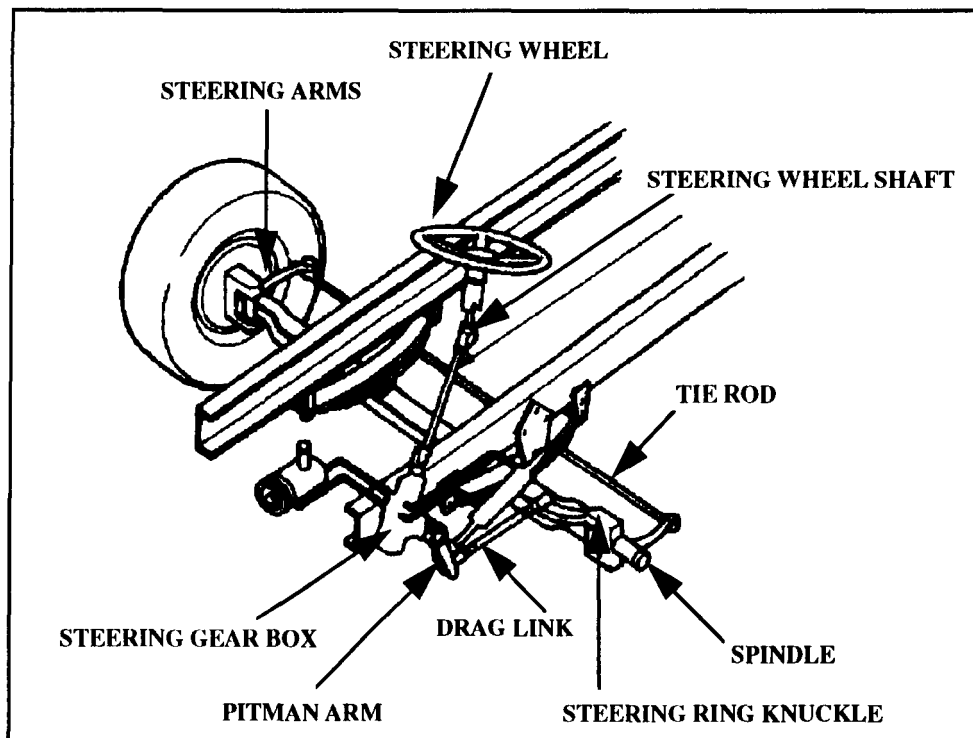

Figure 2-9. Steering system key parts
- (1) Cracked drums.
- (2) Shoes or pads with oil, grease, or brake fluid on them.
- (3) Missing, broken, or dangerously thin shoes.
d. Steering System Defects. Figure 2-9, page 2-40, shows the key parts to the steering system. Look for the following:
- (1) Missing nuts, bolts, cotter keys, or other parts.
- (2) Bent, loose, or broken parts, such as the steering column, steering gear box, or tie rods.
- (3) Leaks in hoses and pumps and low fluid levels, if equipped with power steering.
- (4) Steering wheel play of more than 10 degrees (approximately 2 inches of movement at the rim of a 20-inch steering wheel). This can make it hard to steer.